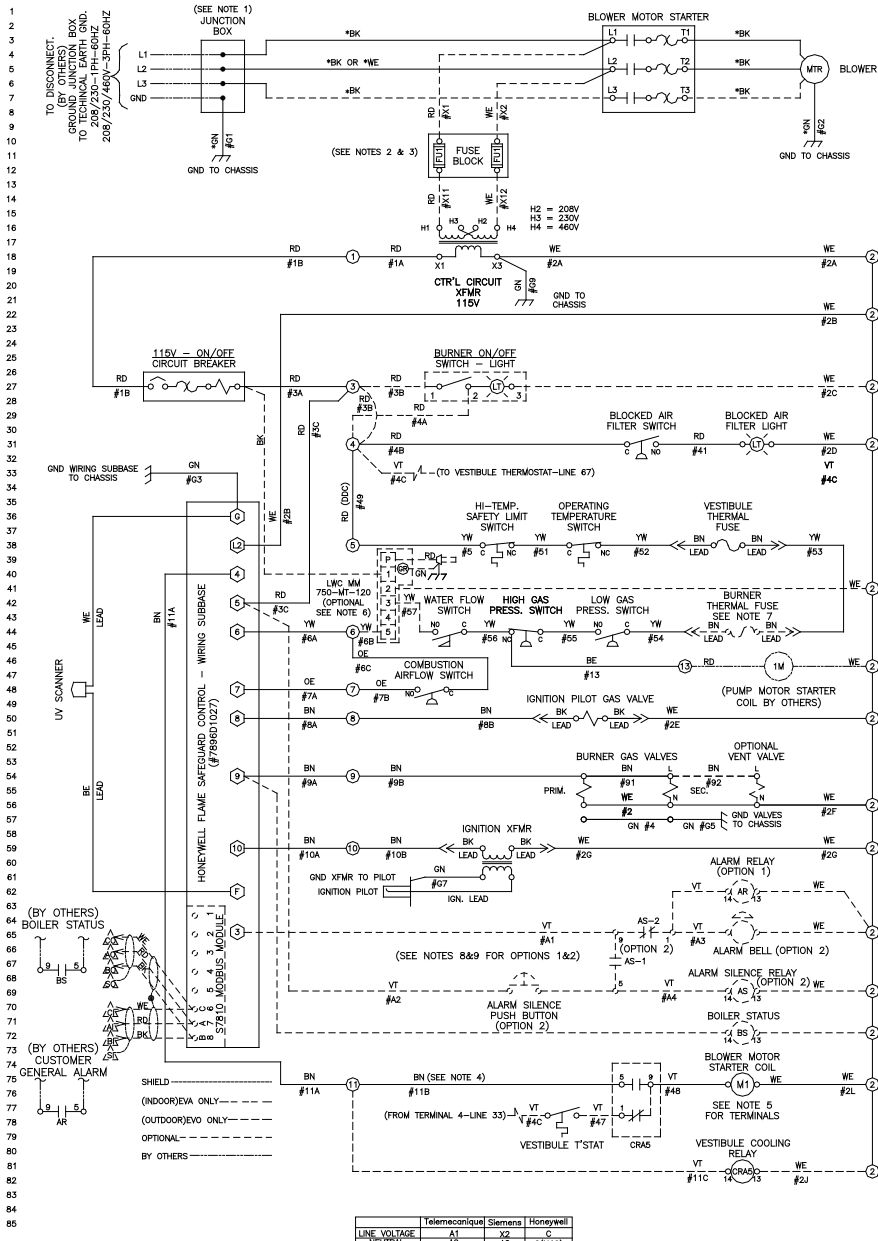

Figure 9a: Standard UL/FM/CSD-1 Wiring Diagram (On/Off)
4. Remove factory supplied jumper wire from terminals 4 and 5. Connect field supplied safety limits or devices (low water cut-off, temperature limit etc.) in series using proper terminals provided in water heater electrical cabinet. Refer to wiring diagram supplied with water heater for wiring information. Refer to Figures 9a, and 9b for typical wiring diagrams. Refer to Figure 1 for electrical requirements.